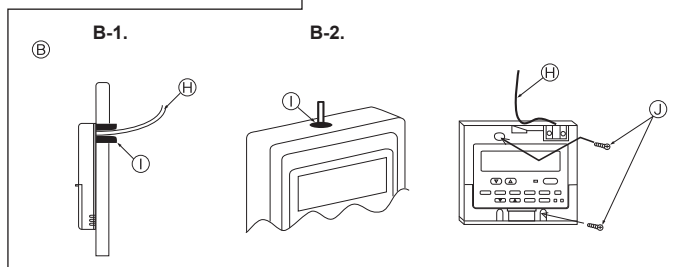

Fig. 5-6
① Remote controller profile
② Required clearances surrounding the remote controller
③ Installation pitch
(2) Seal the service entrance for the remote controller cord with putty to prevent possible invasion of dew drops, water, cockroaches or worms. (Fig. 5-6)
④ For installation in the switch box:
⑤ For direct installation on the wall select one of the following:
(3) For direct installation on the wall
⑥ Wall
⑦ Conduit
⑧ Lock nut